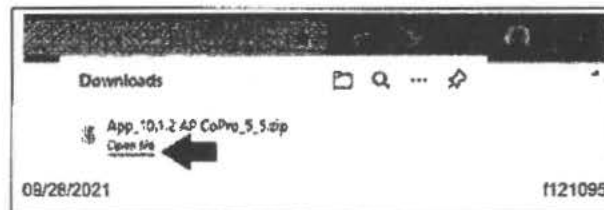

**Fig. 5, Link to Open the Downloaded File**
6. A download box will now appear on the upper right corner of the browser window. Once the download is complete, Select 'Open File.' See Fig. 5.